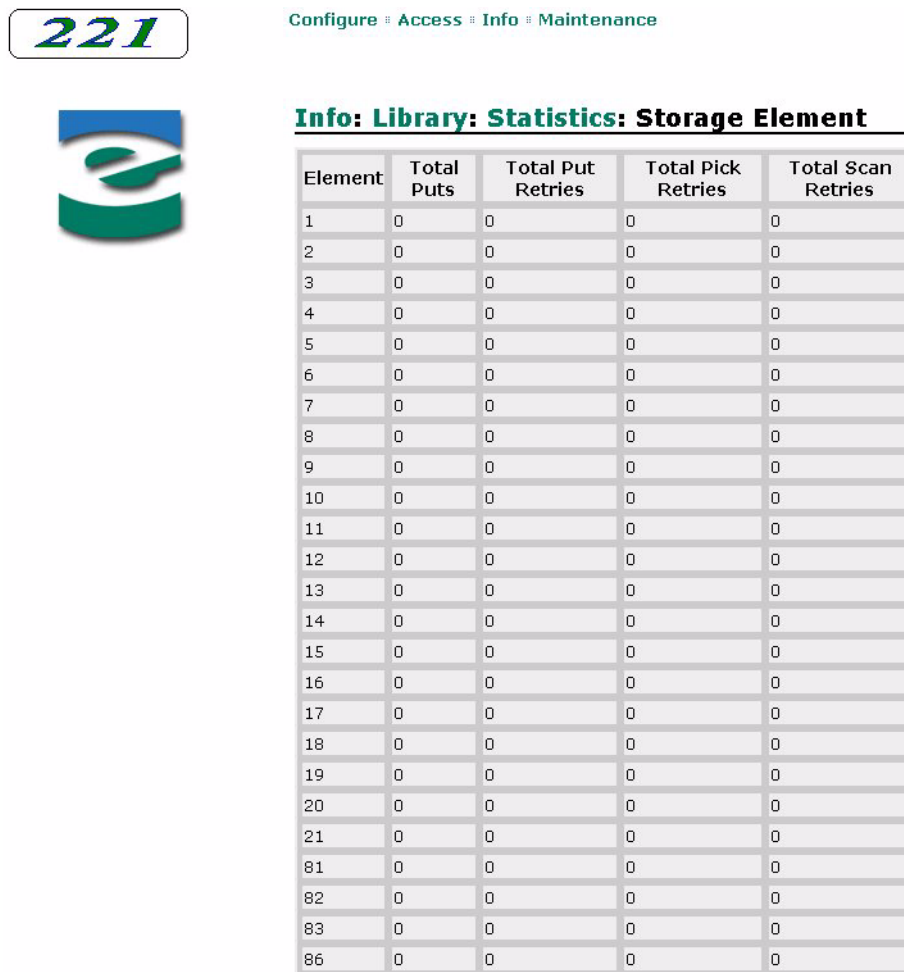

Figure 6-29 Remote management utility – Storage Element Statistics page
4. Click on Storage Element Statistics. A page similar to Figure 6-29 appears.